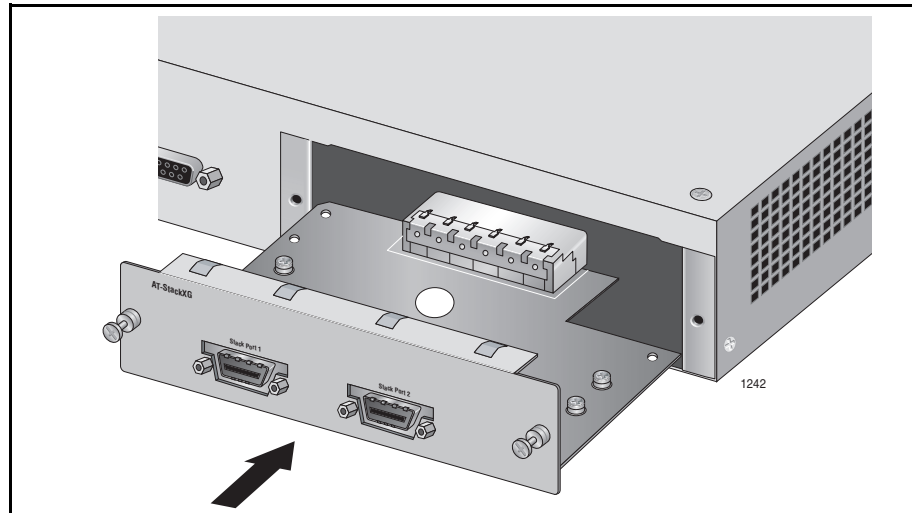

Figure 3. Installing the AT-StackXG Stacking Module
3. Align the edges of the module with the guides in the slot and carefully slide the module into the chassis until it is flush with the back panel of the chassis, as shown in Figure 3. Light pressure may be needed to seat the module on the connector on the back panel of the chassis.